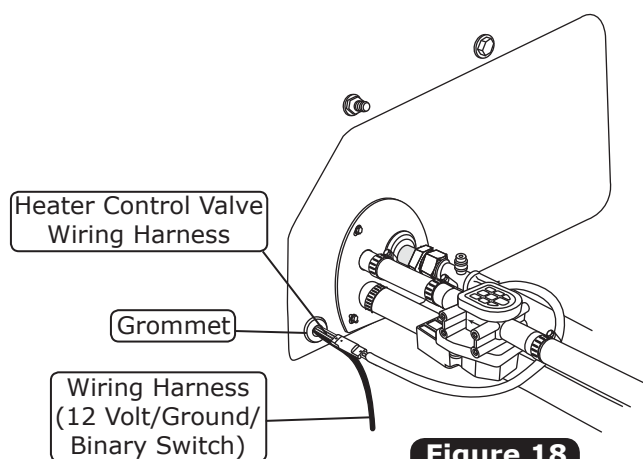

Figure 18
2. Route the A/C wires (12 volt/ground/binary switch/heater control valve) through the 3/8" grommet (See Figure 18, below).